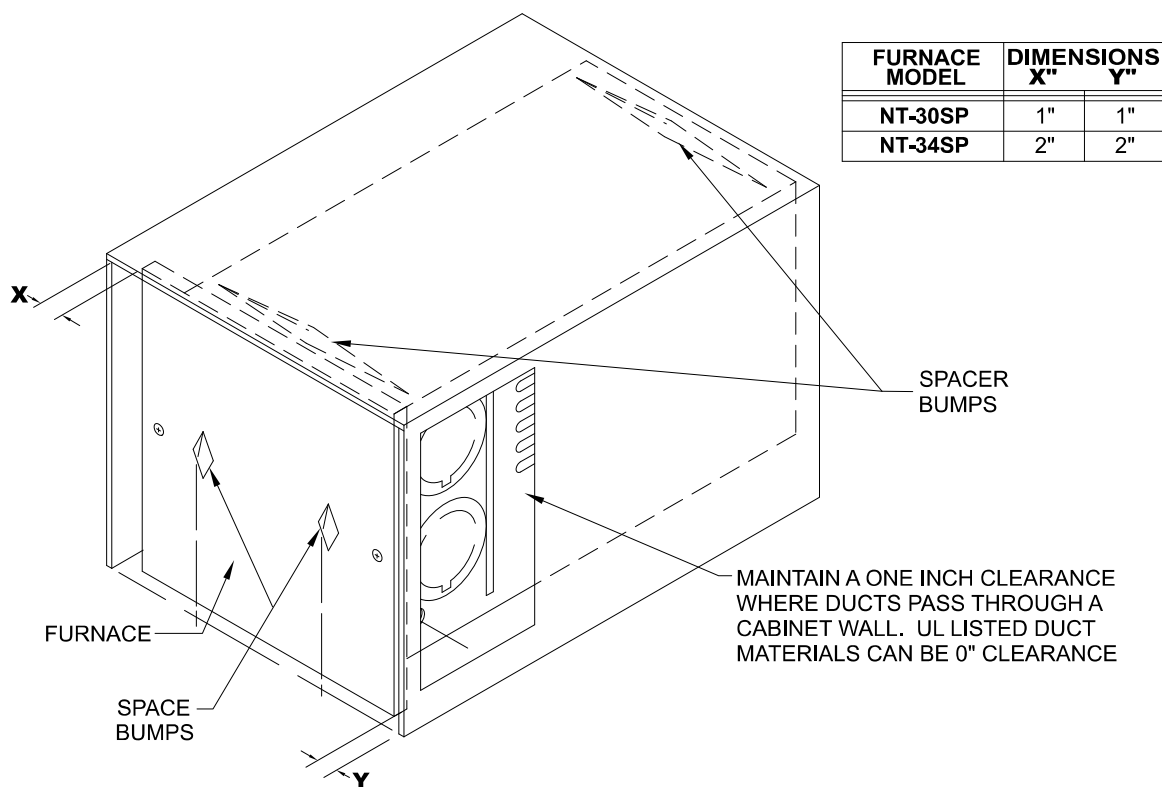

Figure 3
6. Maintain a minimum of 1" clearance where ducts pass through any combustible construction such as, coach cabinetry. (See Figure 3.) **NOTE:** UL listed duct materials can be "0" clearance.